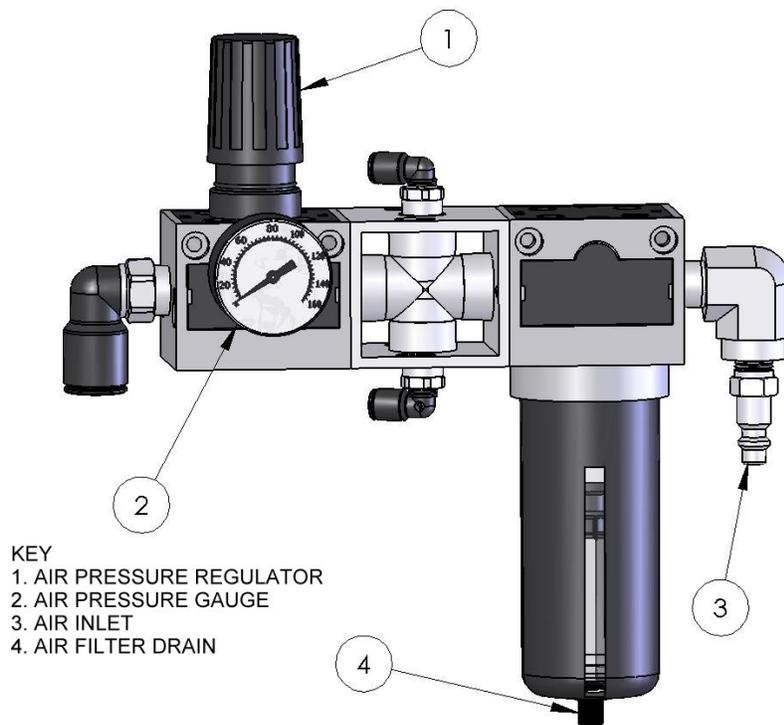

Figure 3
- 1.2. Turn the machine speed down, (usually by turning the main air pressure regulator down), (fig 3, #1).
machine, (fig 3, #3) at the end of the stroke to ensure the bleed valve is closed prior to the rods retracting.)
- 2.2. Set the air pressure regulator at 15-20 psi, (fig 3, #1 & #2).
- 2.4. Disconnect the air from the machine, (fig 3, #3).
- 2.6. Reconnect the air and adjust the air pressure regulator, (fig 3, #1) at the desired setting/flow rate.